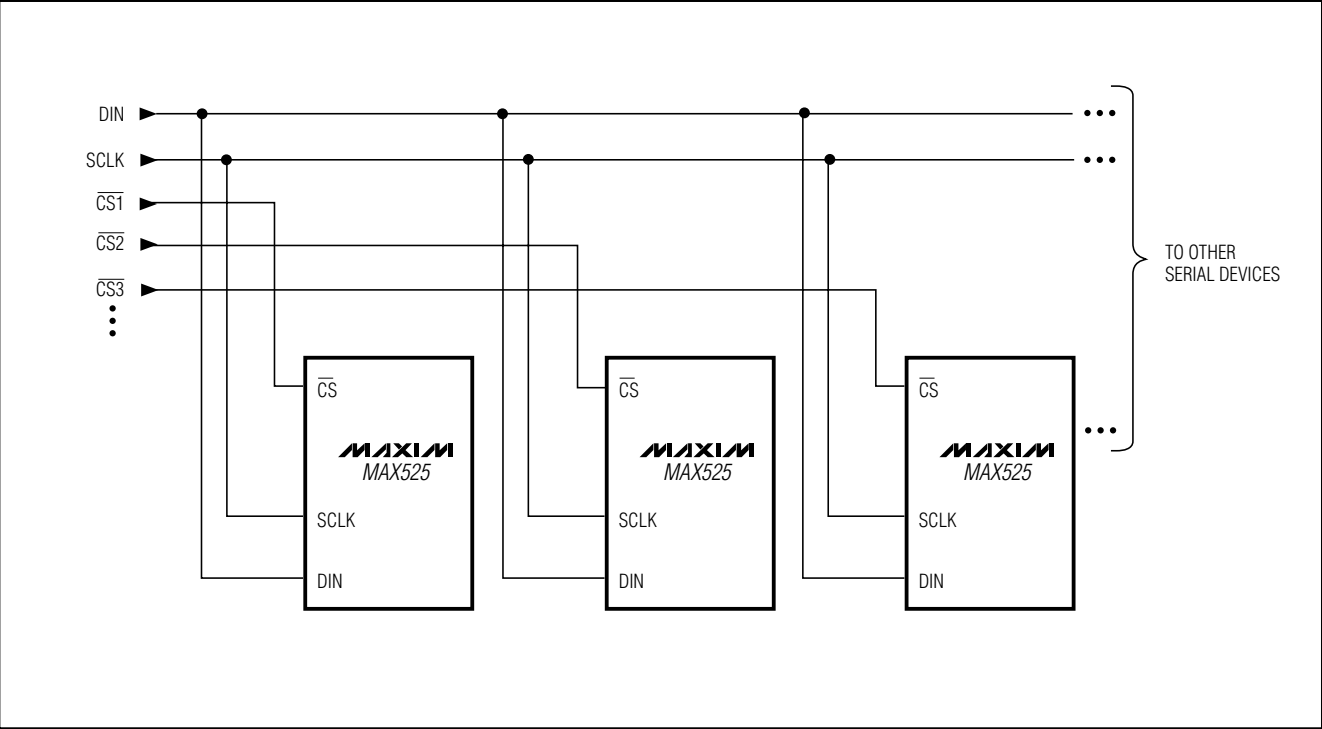

Figure 8. Multiple MAX525s Sharing a Common DIN Line
Figure 8 shows an alternate method of connecting several MAX525s. In this configuration, the data bus is common to all devices; data is not shifted through a daisy chain. More I/O lines are required in this configuration because a dedicated chip-select input (CS) is required for each IC.